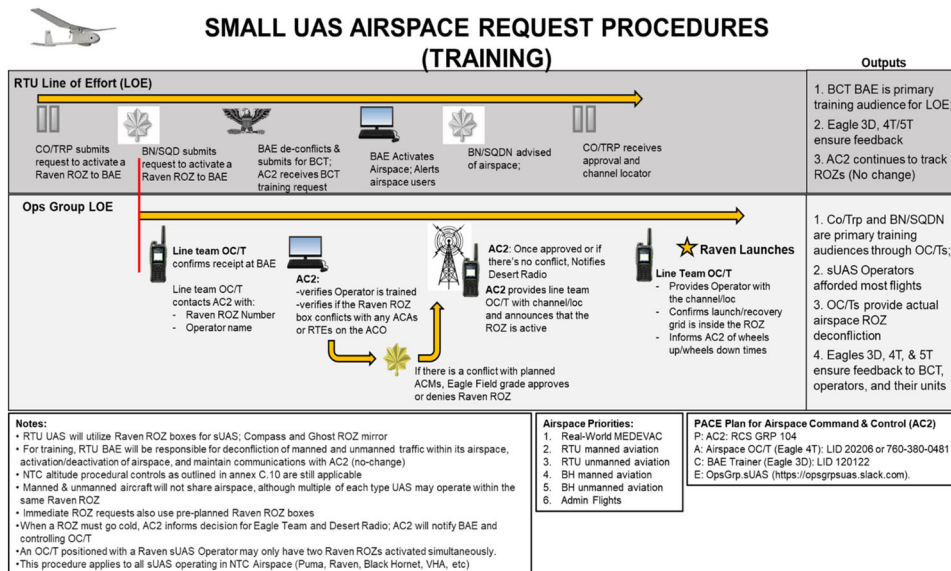

Figure 9-13a
- a. UAS that do not require a dedicated launch and recovery site (such as a landing strip or airfield) will utilize the process outlined in Table 9-13 and Figure 9-13a for launch, operations below 1500' AGL, and recovery in the ROZ Box system. If these UAS plan to operate above 2000' AGL, the same process as above will be used for launch and recovery, but the UAS will operate in the Grid Area Reference System (GARS) IAW NTC Regulation 95-1. UAS that require a dedicated launch and recovery site will follow the procedures starting at 13.b. and in NTC Regulation 95-1.